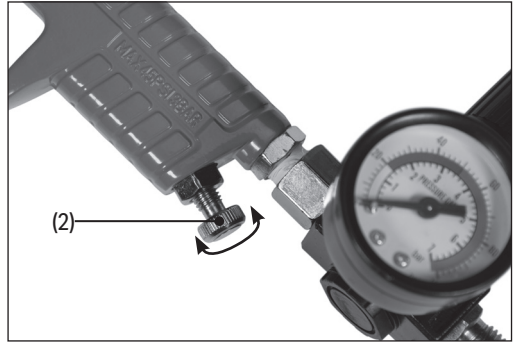

Fig. 8
The air pressure can be fine-tuned by adjusting the air control dial (2) on the spray gun. This is used to make minor adjustments to the air flow after the required air pressure has been set by the regulator (Fig. 8).